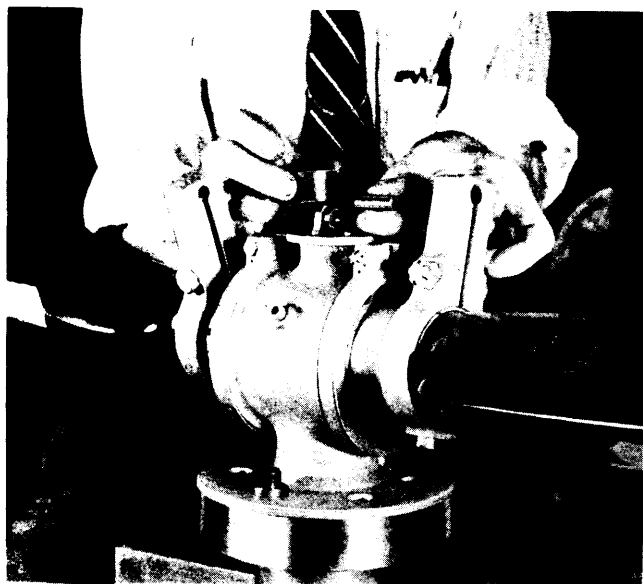

Figure 17. Removing Synchronizer Assembly
l. SYNCHRONIZER ASSEMBLY. (See figure 17.)—Before starting disassembly, remove the synchronizer piston. This will allow the synchronizer links to be easily removed through the synchronizer bore as the flanges are being withdrawn.